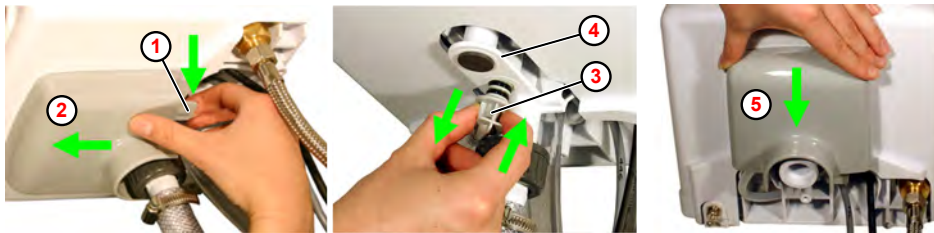

Fig. 12: Funnel lock
1. ➤ Pull the safety latch (Fig. 12 , ①) downwards.
2. ➤ Slide the funnel lock ② forwards/remove.